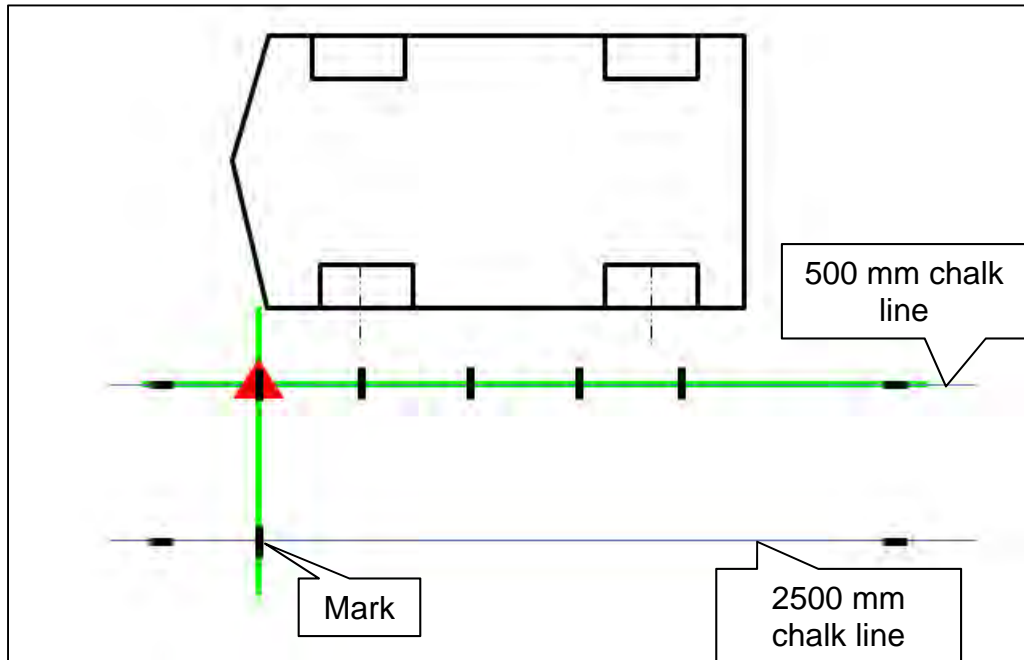

Figure 35
28. Move the laser level to the position shown in Figure 35, and then make a mark on the 2500 mm chalk line.